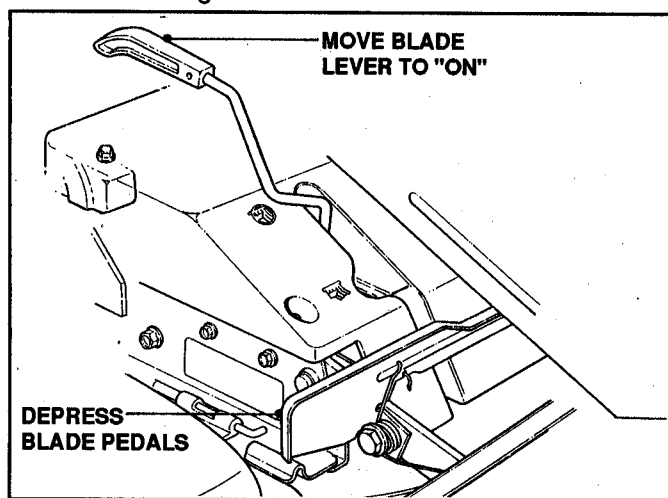

FIGURE 3.4
- (a) Move blade lever up and over to the "ON" position and depress blade pedals. See Figure 3.4.